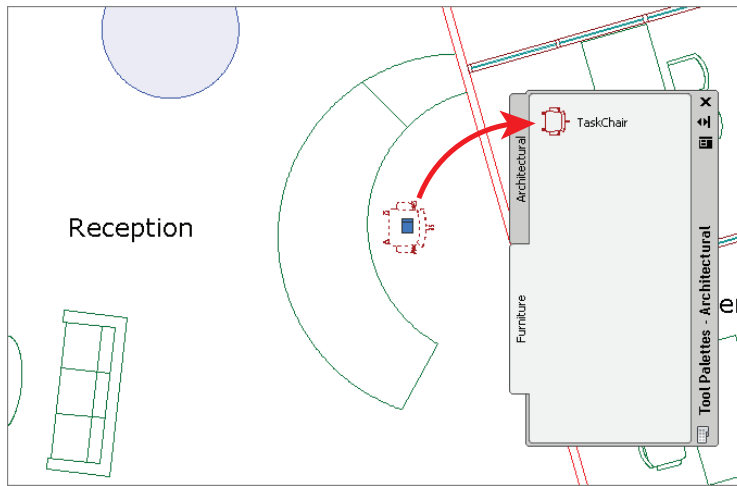

FIGURE 9.21 Creating a tool on a new palette by dragging a chair block onto it
5. Select the receptionist's chair. Drag this chair (not using a grip) onto the Furniture palette. TaskChair appears with a preview icon (see Figure 9.21).